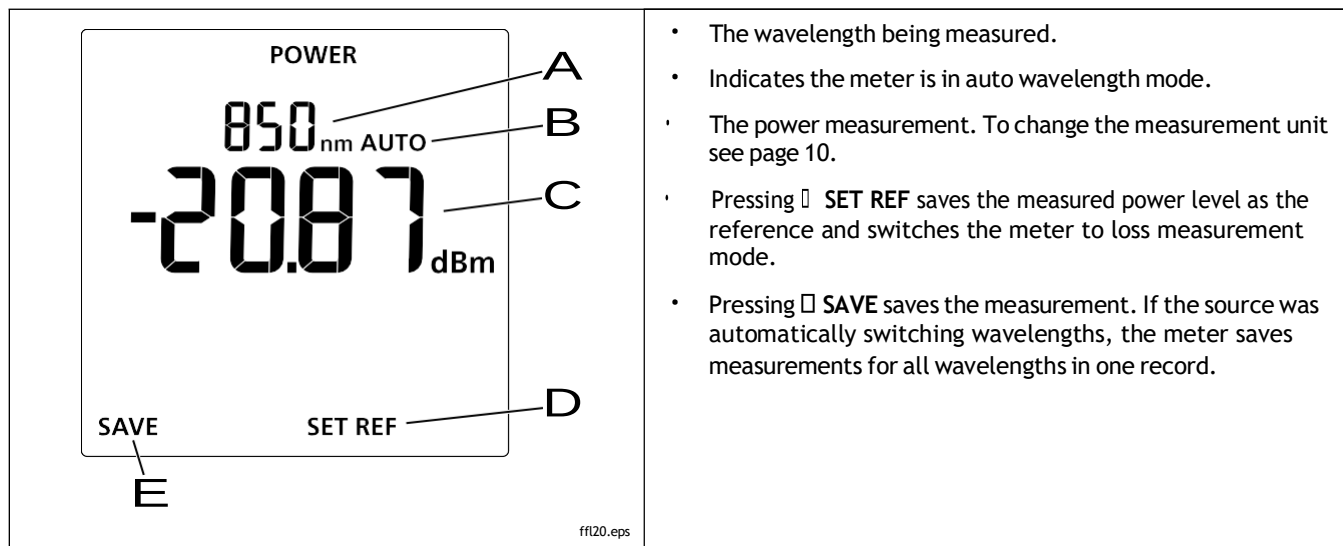

Figure 8. Power Measurement Display
- 2 On the meter, press **□** until **POWER** appears (Figure 8.)
- 5 On the meter, press  until **POWER** appears (see Figure 8 on page 21).